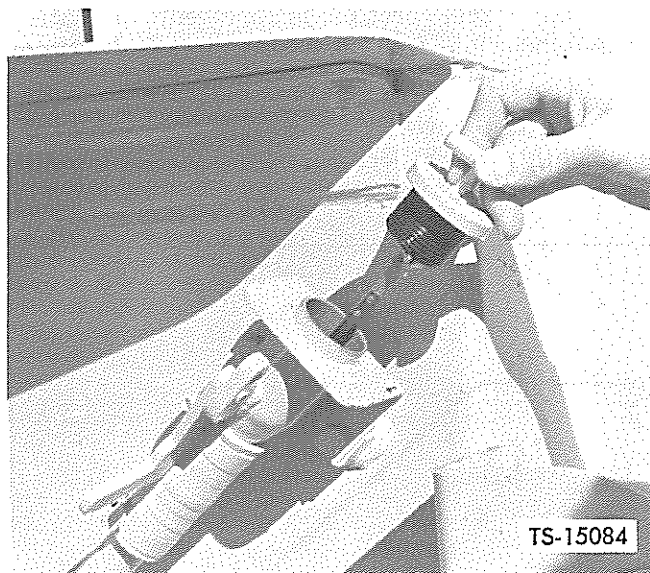

Fig. 3. Transmission Dipstick and Filler Plug
5. Maintain fluid level to indicated **FULL** mark on dipstick. See Fig. 3.